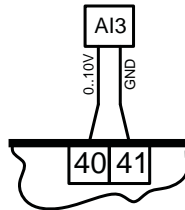

Figure 2
*If the humidity transmitter with 0... 10 V is used, connect as per figure 2.